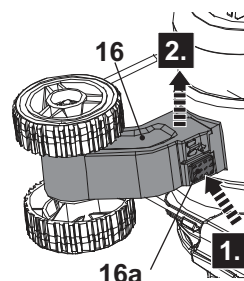

Fig. 3
2. Press the release button (16a) and remove the edger wheel (16) from the edger support (14a) (Fig. 3).